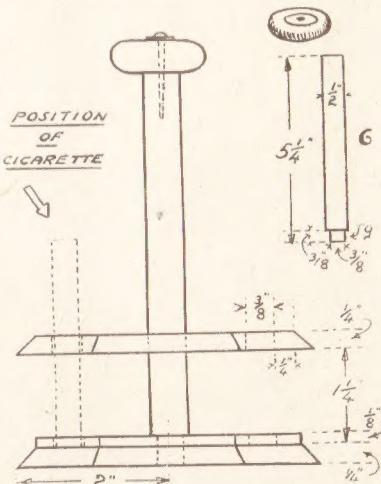

Fig. 3—Section and detail of spindle
Now take a $\frac{1}{4}$ in. square opening out of the centre of (B) and another of $\frac{1}{8}$ in. sides from the middle of the base. These are for the handle (G) (Fig. 3). It would be nice if this latter could be turned on a lathe at the top to some pleasing shape, but in lieu of this finish, a square-section length of wood with a 'button' on top